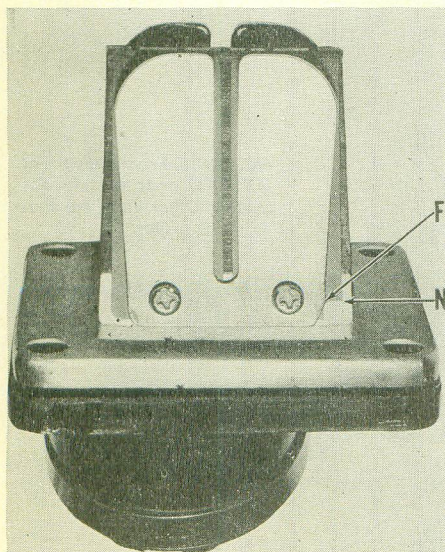

Fig. Y18-15—Notched corner of reed petal (N) should be next to flattened corner (F) of reed stopper plate.
Inspect reed petals (4—Fig. Y18-14) for cracks or tears. Petals should be renewed if any flaws are detected. Curve of reed stopper plate (3) should be smooth and free of kinks or rough spots. Check rubber coating on reed block (5) for cracking or peeling. When assembling unit, place corner of reed petal with notch (N—Fig. Y18-15) beneath corner of reed stopper plate with flat (F).